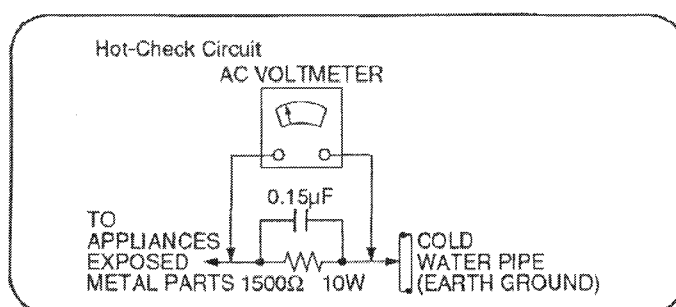

Fig. 1
4.1.2. LEAKAGE CURRENT HOT CHECK (See Figure 1.)
2. Connect a 1.5k Ω , 10 watts resistor, in parallel with a 0.15μF capacitors, between each exposed metallic part on the set and a good earth ground such as a water pipe, as shown in Figure 1.